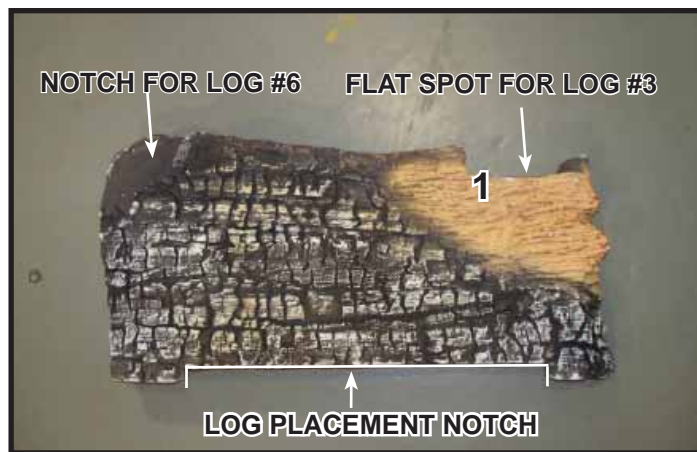

Figure 2.
**CAUTION:** Logs are fragile, handle with care. **Log #1 (2280-701 for TRUE-36, 2281-701 FOR TRUE-42):** Locate log placement notch on the bottom of log #1. See Figure 2. Mate outer notches on the bottom of Log #1 with the left and right grate tines. Slide Log #1 toward the rear of appliance until back side of Log #1 contacts the log placement tabs. See Figures 1-3.
**Log #6 (2281-706):** Place Log #6 into appliance as shown in Figure 12. Base of log will sit on bottom refractory and notch on log will rest against grate tine. Lean top of log into notch on Log #1. See Figure 2.